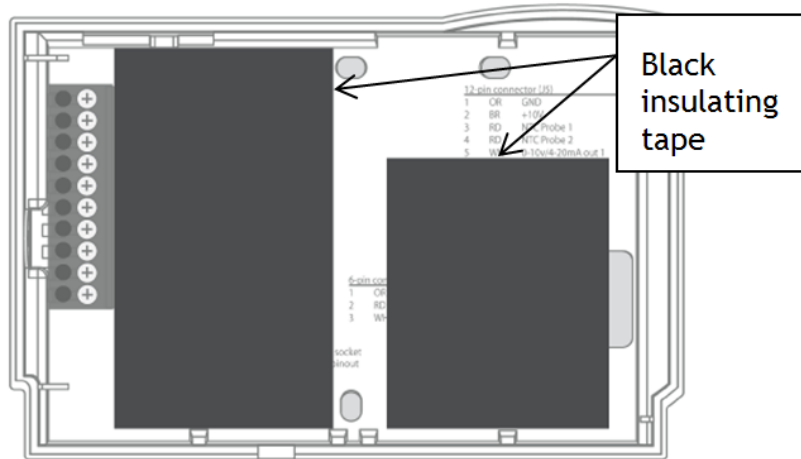

Figure 9: Backplate with UL-Rated Insulating Tape
Step 16 Ensure no airflow from JBOX or wall cavity is able to seep into the thermostat through the wire harness. Telkonet recommends the use of UL caulk or UL rated insulating tape as shown in Figure 9 to avoid false temperature readings.